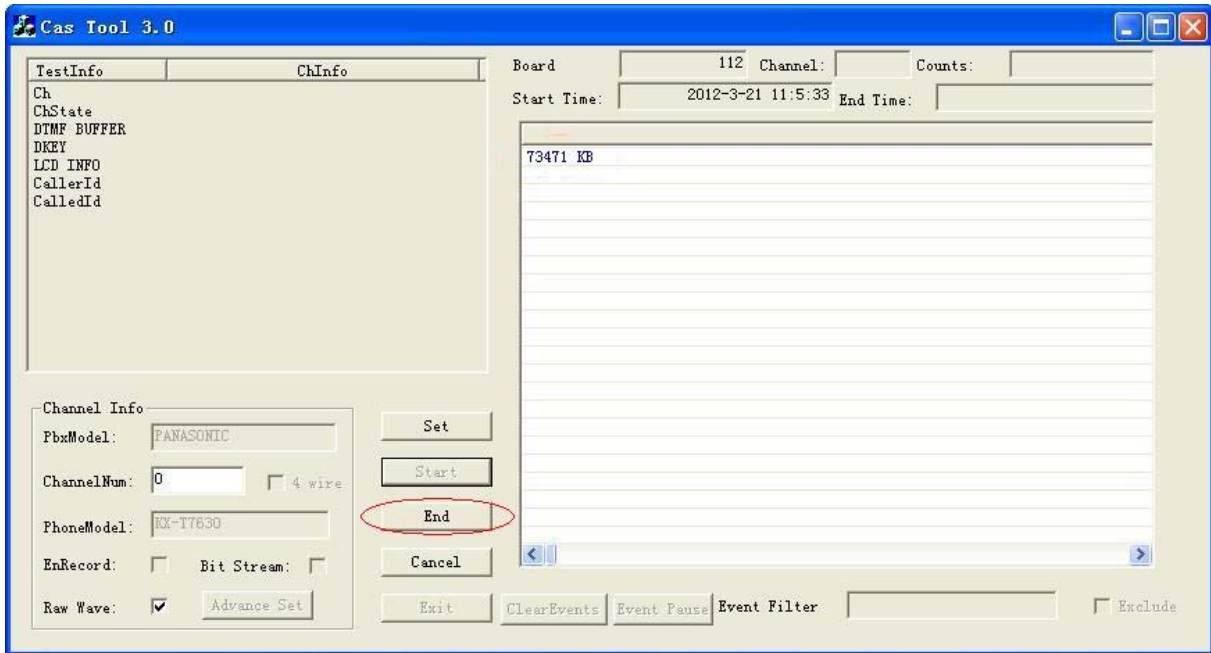

Figure 2-27
Step 7: Click on the 'End' button to stop acquiring raw data as shown in Figure 2-27.